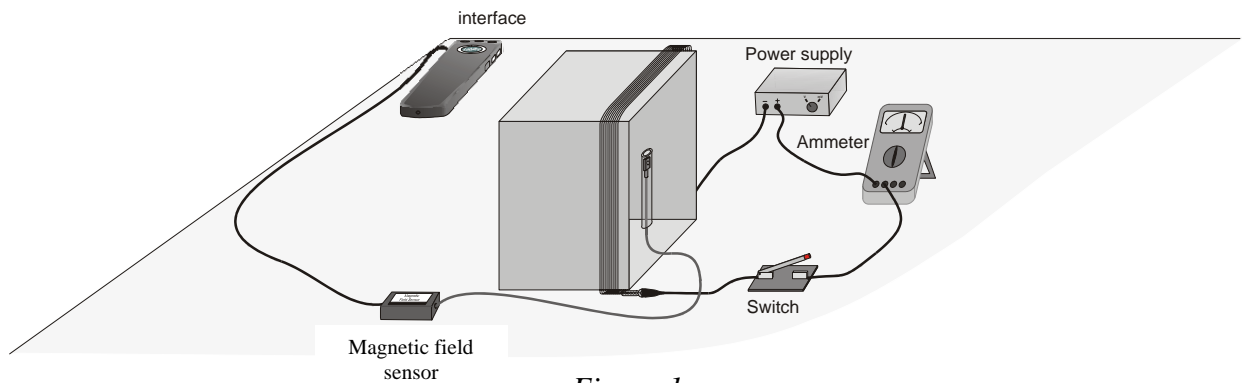

Figure 1
3. Connect the coil, switch, ammeter, and power supply, as shown in Figure 1.